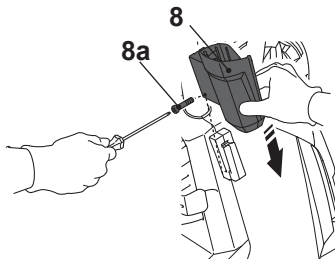

Fig. 1
- Slide the spray gun holder (8) to the product and secure it with the screw (8a) (Fig. 1).